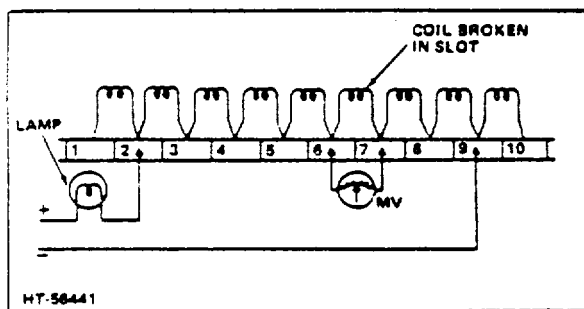

Figure 5-2. Method of Locating an Open Coil
- a. Place the armature on "V" blocks and connect a source of direct current to the commutator. (Use the circuit of Figure 5-2.)
- b. Test by spanning bars with millivoltmeter leads as illustrated in Figure 5-2.